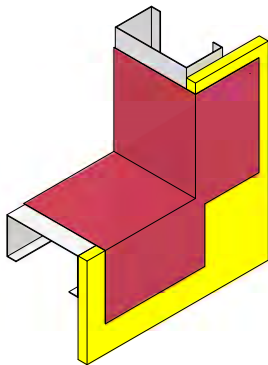

Figure 21
1. Apply a generous amount of FLASHING PRIMER to the corners of openings and out onto the substrate. (See Figure 21)